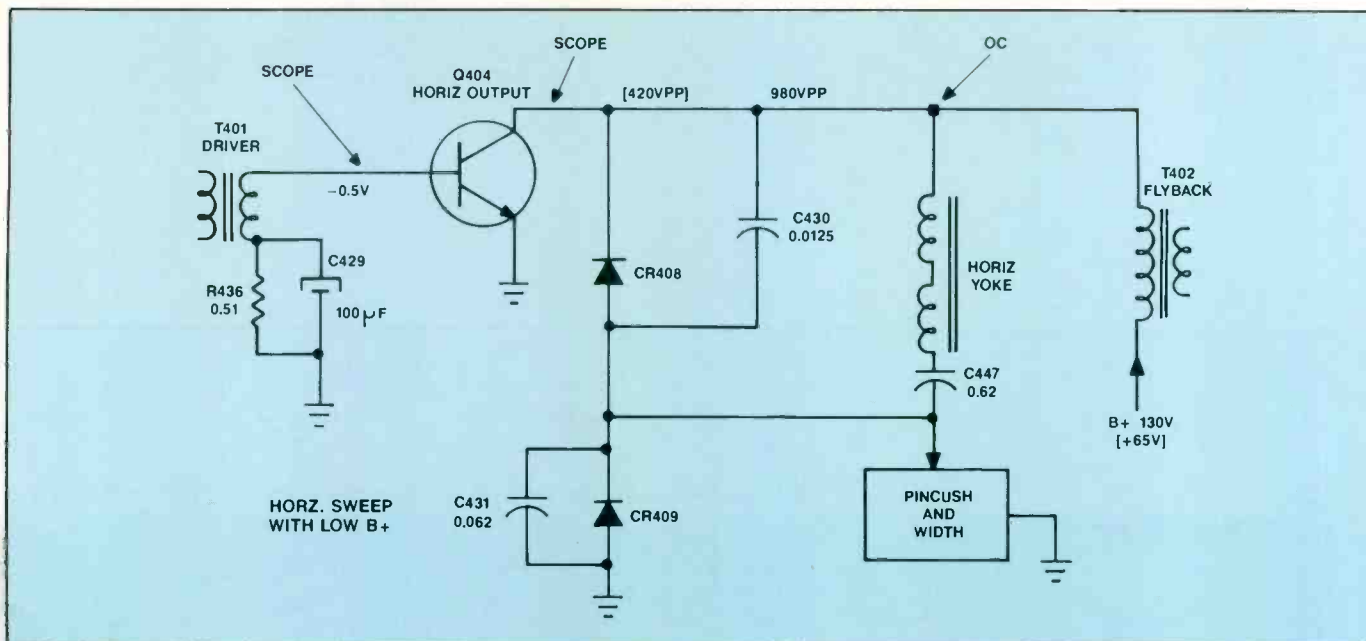

Figure 2. Use this schematic as a guide when performing the reduced-voltage checks of Q 404 described in the text.
4. Scope the waveform at the base of Q404—to confirm operation of the horizontal oscillator and horizontal driver circuits. Next, scope the Q404 collector (body or case) expecting to find clean horizontal pulses of much lower amplitude than those of normal operation (see Figure 2 schematic).
6. Some windings of flyback T402 or diodes and components shown in the schematic of Figure 2 also can cause arcs and excessive loading when defective.